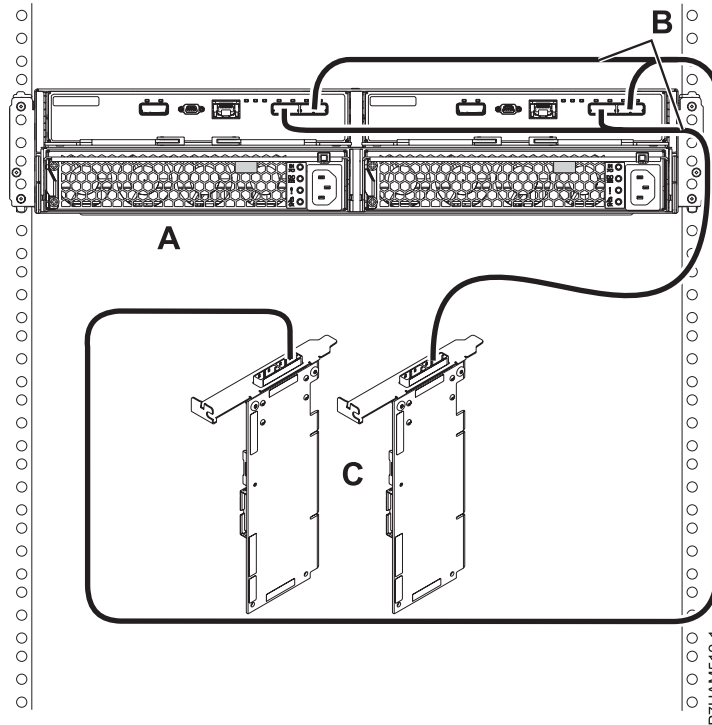

Figure 31. Mode 1 connection of one 5887 disk drive enclosure by using YO cables to a SAS adapter pair
- k. Perform the mode 1 connection of one 5887 disk drive enclosure (A) by using YO cables (B) to a SAS adapter pair (C) as shown in Figure 31 on page 28.